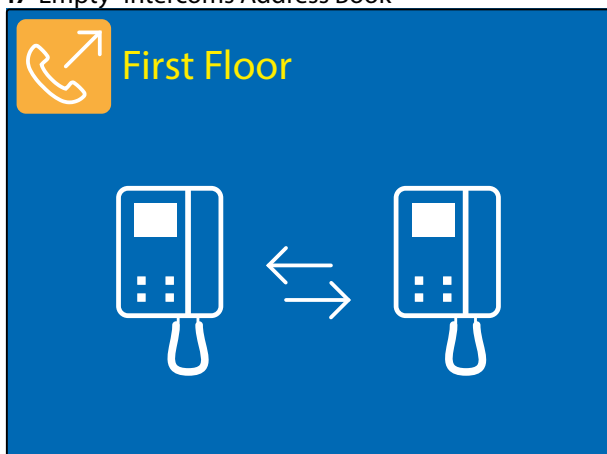
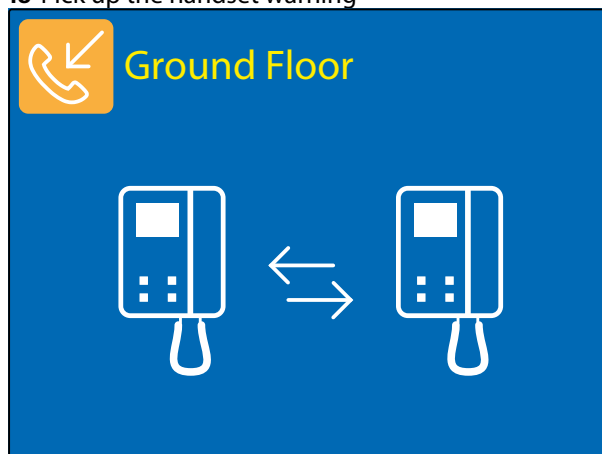

Fig. 49 Outgoing call on calling videophone
Fig. 50 Incoming call from on called videophone
- The calling videophone shows the outgoing call symbol followed by the name of the called videophone (Fig. 49) while the called videophone shows the incoming call symbol followed by the name of the calling videophone (Fig. 50).